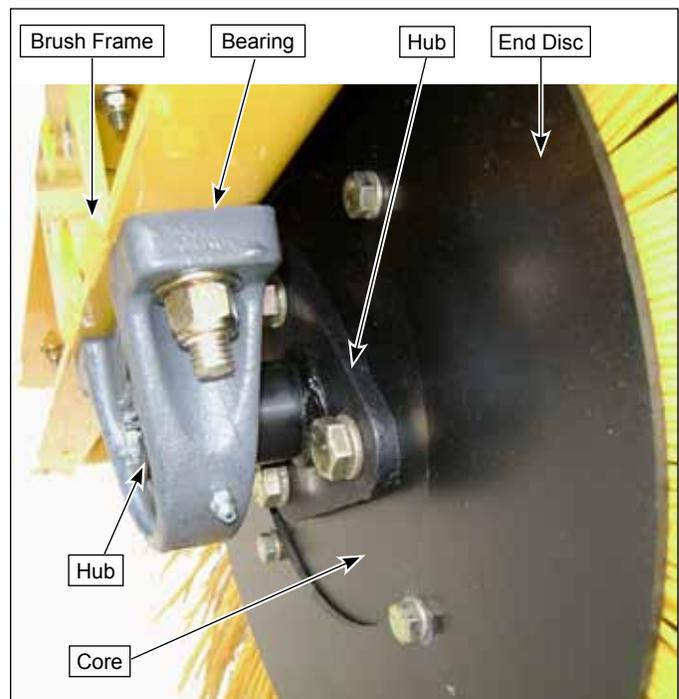

Figure 2
2. Remove (3) 1/2-13 x 1" capscrews, lock washers and splined hub from one end of core. Retain hub and mounting hardware. See Figures 2 and 3.
3. Remove (3 or 4) 5/16-18 x 3/4" capscrews, lock washers and end disc (wafer retainer plate) from one end of core. Retain end disc and mounting hardware. See Figures 2 and 3.
4. Install end disc on core with original hardware. See Figure 2.
5. Install splined hub on core with original hardware. See Figure 2.
6. Install end bearing on hub. See Figure 2.